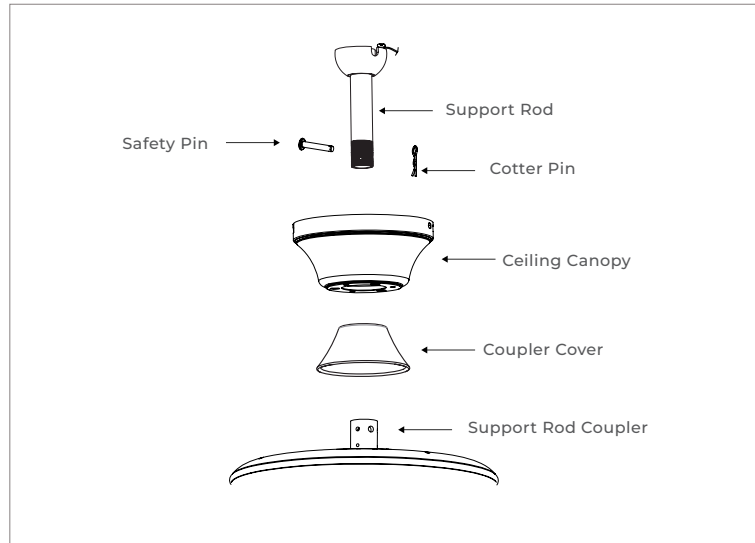

FIGURE 1
2) Slide the canopy onto the support rod, followed by the support rod coupler cover (Fig1). Feed electrical wires from the fan housing through the support rod.